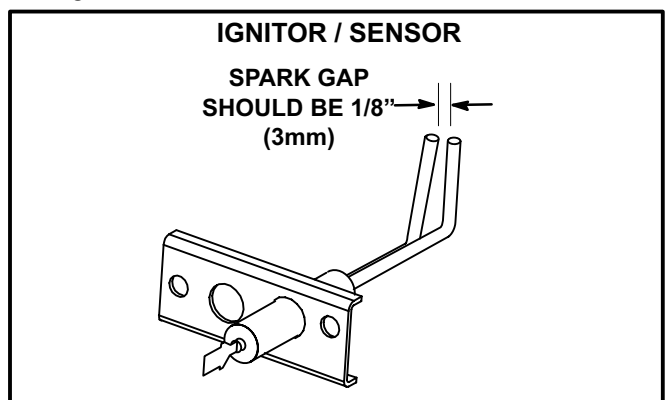

FIGURE 20
- 2- Remove left burner and check spark gap with appropriately sized twist drills or feeler gauges. See figure 20.